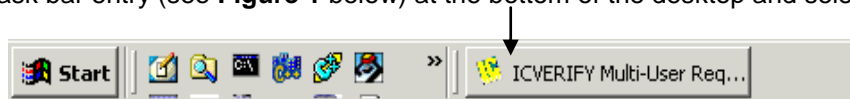

Figure 1: ICVerify Multi-User Request
2. Close the ICVERIFY Multi-User Request File Processor program, if it is open, by right-clicking on the ICVERIFY task bar entry (see **Figure 1** below) at the bottom of the desktop and selecting CLOSE.